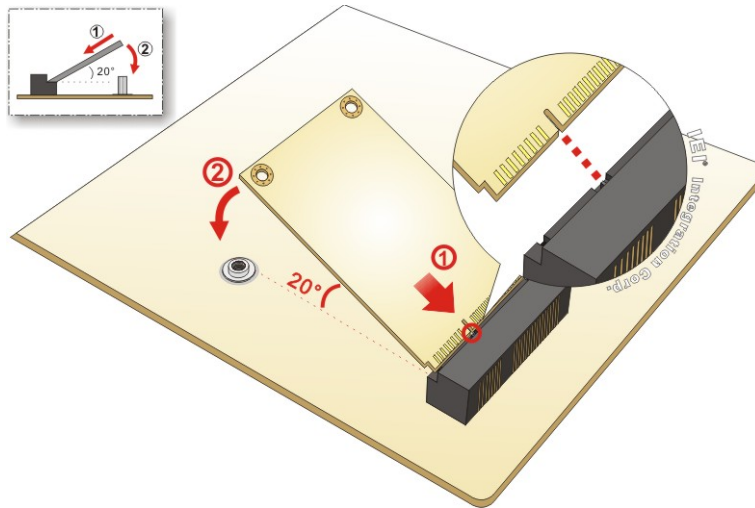

Figure 3-14: Installing an mSATA Module
Step 5: Line up the notch on the mSATA module with the notch on the connector. Slide the PCIe Mini card into the socket at an angle of about 20° (**Figure 3-14**).
Step 6: Secure the mSATA module with the retention screw. Push the other end of the mSATA module down and secure the module with the previously removed retention screw (**Figure 3-14**).